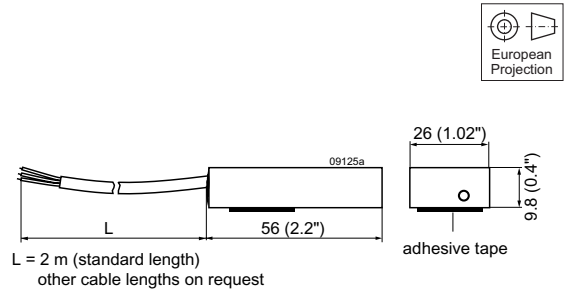

Fig. 37
- Different battery sensors S-KSMH... for using the converter as a battery charger. Different cell characteristics can be selected; see fig. 37, table 13, and *Battery Charging/ Temperature Sensors*.